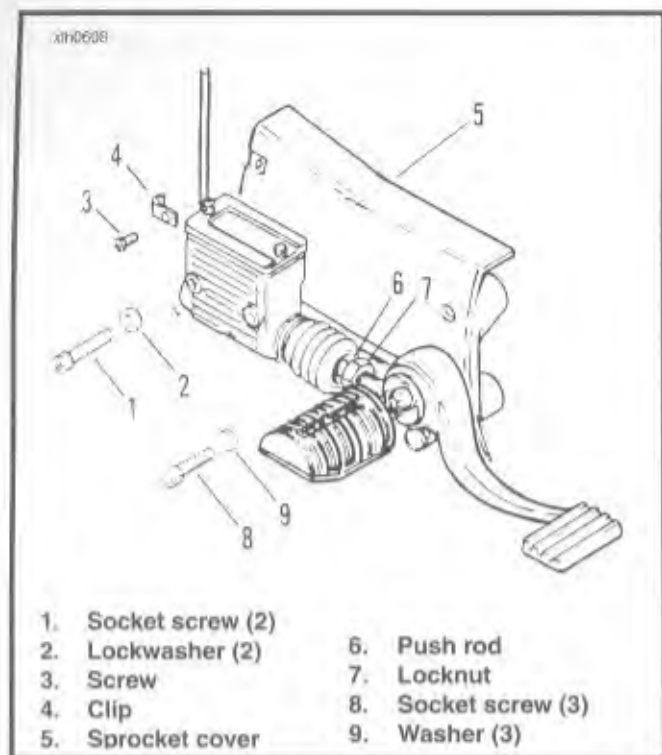

Figure 6-9. Sprocket Cover
3. See Figure 6-9. Remove screw (3) and clip (4) which secure rear brake line to sprocket cover (5).
4. Remove two socket head screws (1) and lockwashers (2) which secure rear brake master cylinder to sprocket cover.
5. At rear brake linkage, loosen locknut (7). Turn push rod (6) at flats until rod end is free of push rod.
6. Remove three sprocket cover screws (8) and washers (9). Remove sprocket cover (5).
9. See Figure 6-9. Install belt. Reinstall removed components in reverse order of removal procedures.
- Tighten sprocket cover screws (8) to 90-110 in-lbs (10.2-12.4 Nm) torque.
- Tighten master cylinder screws (1) to 155-190 in-lbs (17.5-21.5 Nm) torque.